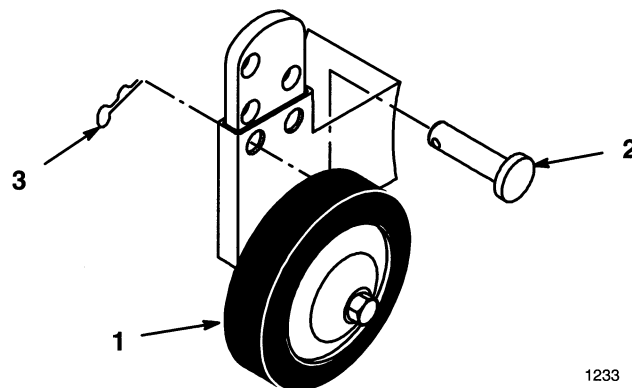

Figure 23
2. Remove hairpin cotter and pin to change hole location (Fig. 23).
3. Select a hole position so the gage wheel is 3/8" (9.5 mm) off the ground for the height-of-cut to be used (Fig. 23).